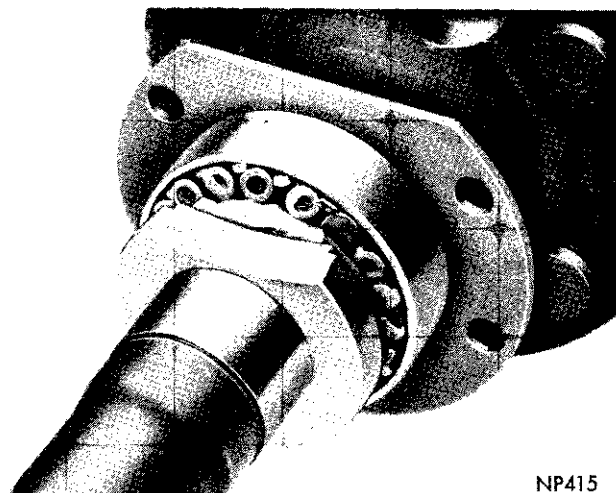

Fig. 14—Collar and Inner Race Ground Prior to Removal (Imperial)
(3) Grind axle shaft collar in one position to approximate thickness of protective sleeve SP-5041. At same time grind a portion of inner bearing race so bearing rollers can be removed (Fig. 14).
(4) Position axle shaft bearing retaining collar on a heavy vise or anvil and using a chisel, cut a groove into collar at position that you previously ground. Collar should split and, which in turn will enlarge bore and permit collar to be driven off of axle shaft.